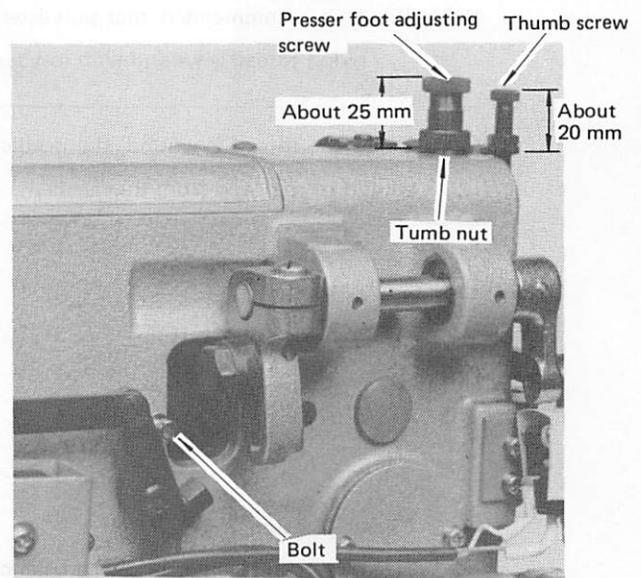

Fig. 9.6
- (3) The vertical stroke of presser foot is factory-adjusted to 4 mm. To increase the stroke, remove the switch cover, loosen the bolt shown in Fig. 9.6 and move it upward. The vertical stroke can be increased up to 10 mm.
- (4) To adjust pressure of the presser foot, loosen the thumb nut shown in Fig. 9.6 and turn the presser foot adjusting screw. The pressure increases when the screw is turned clockwise, and decreases when turned counter-clockwise. Fig. 9.6 shows the standard adjustment. In usual operation, readjustment of the auxiliary adjusting screw is not required.